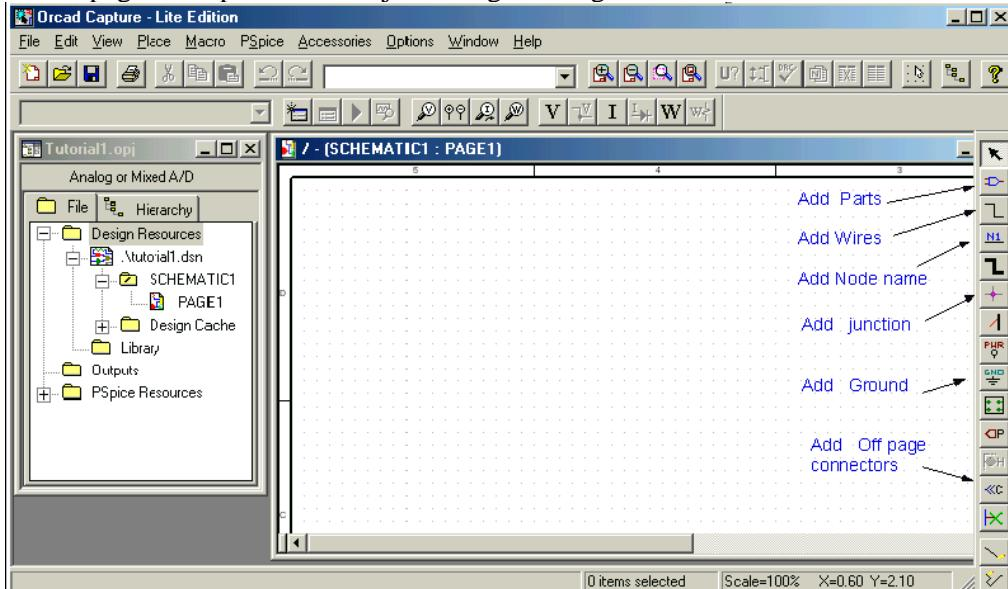

Figure 3: Design manager with schematic window and toolbars (OrCAD screen capture)
5. After placing all parts, you need to place the Ground terminal by clicking on the GND icon (on the right side toolbar – see Fig. 3). When the Place Ground window opens, select GND/CAPSYM and give